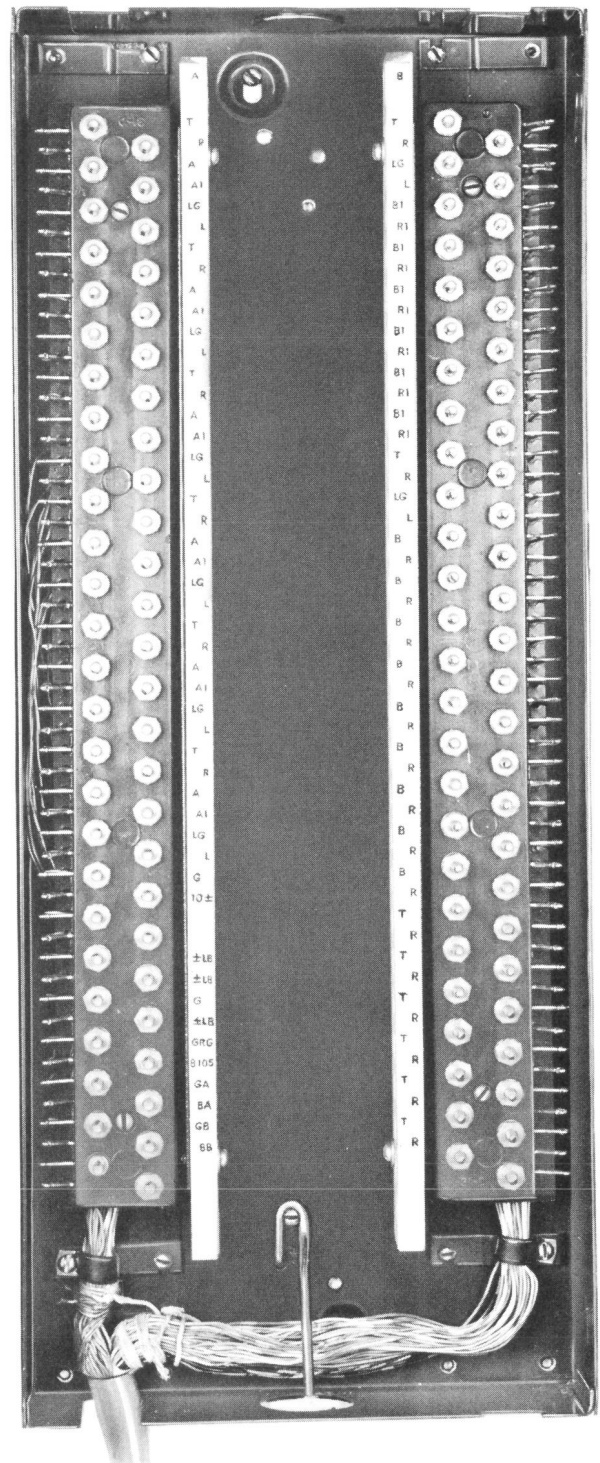

Fig. 8 — 25-Pair Running Cable Terminated in a GC52 Terminal Box
- Revise illustrations for running cables (Fig. 8 and 9) and for 15A apparatus mountings (Fig. 11).
4.11 Wherever practical, running cable pair assignments should follow the same assignment as the key cable (see Fig. 8).